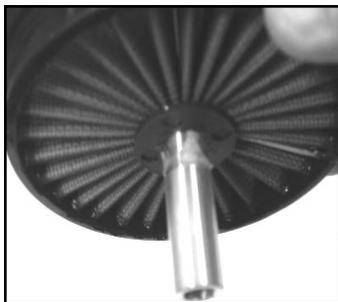

Fig. 4
6. Apply grease to the provided step spacer on the small diameter end and insert into the XStream Top®. (Fig. 4)